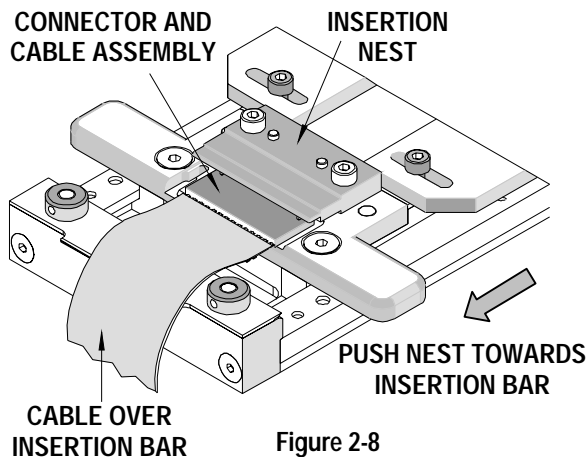

Figure 2-8
8. Remove the connector and cable assembly from the termination nest and load it into the insertion nest on the front of the slide with the cable draped over the insertion bar. See Figure 2-8.